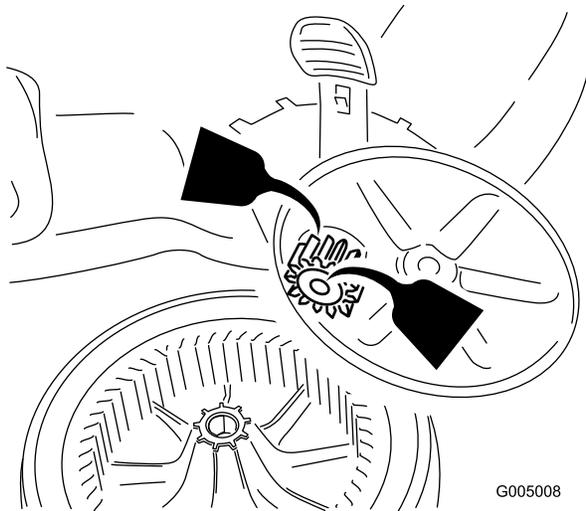

Figure 25
2. Apply a lubricating oil to the inner and outer sides of the gear as shown in Figure 25.